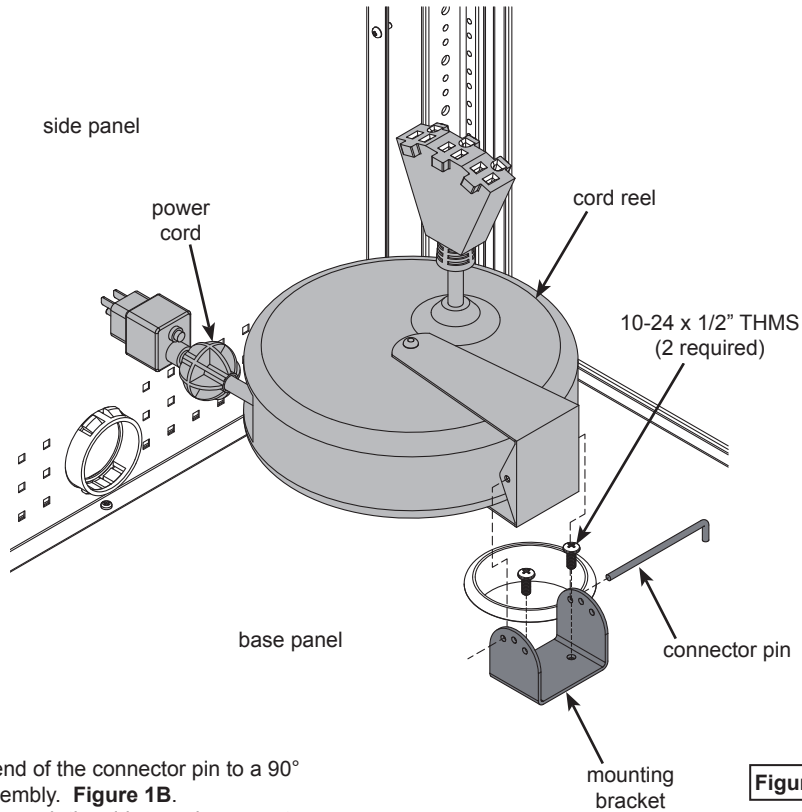

Figure 1A
2. Attach the mounting bracket to the base panel with (2) 10-24 x 1/2" THM screws. **Figure 1A.**